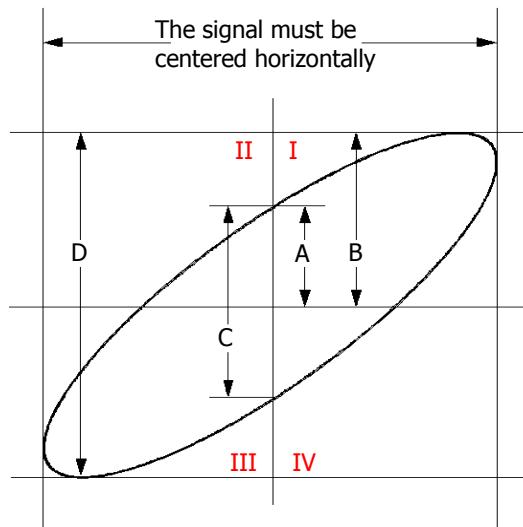

Figure 3-2 Measurement Schematic Diagram of Phase Deviation
5. Observe the measurement result shown in the figure above. According to the measurement schematic diagram of the phase deviation (as shown in Figure 3-2),  $A/B (C/D) = 1$ . Thus, the phase deviation angle  $\theta = \pm \arcsin 1 = 90^\circ$ .